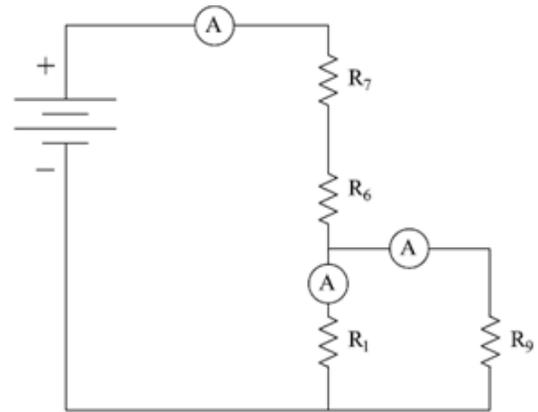

Fig.1b Circuit to study the 1st Kirchhoff law
1. Construct the circuit shown in Fig.1b and adjust power supply voltage at (10V)
2. Measure the three branch currents. Record your measured results in the third column Table (2). In Kirchhoff's current law should be satisfied.